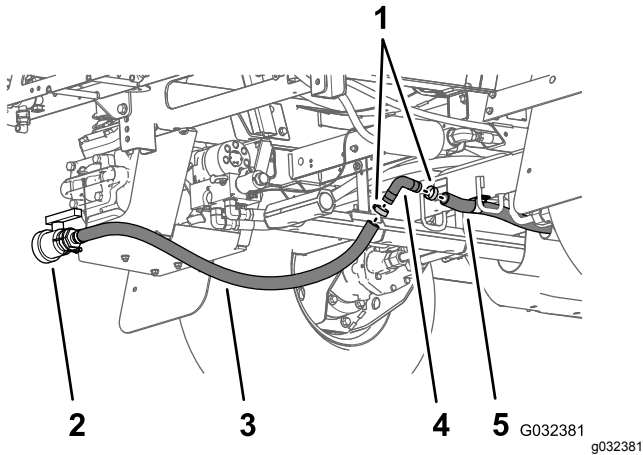
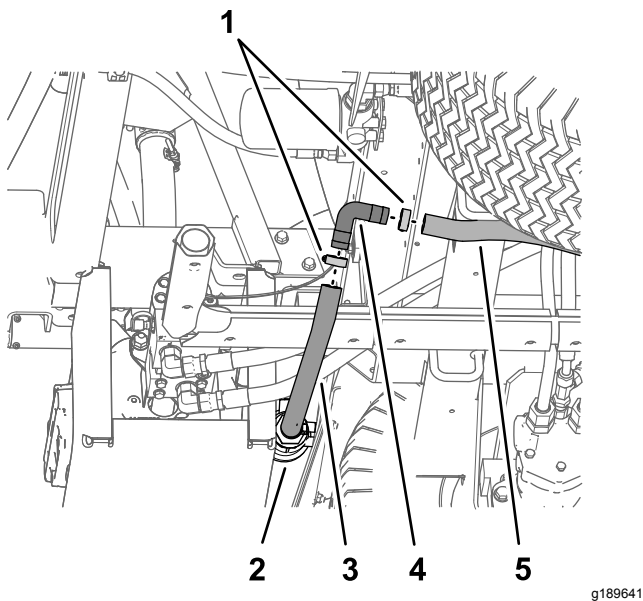

Figure 46
Figure 47
- Insert the 90° barbed fitting that you removed in step 3 into the drain-valve hose and the rear tank-drain hose (Figure 46 and Figure 47).
- Secure the 90° barbed fitting and drain hoses with the 2 hose clamps that you removed in step 2 (Figure 46 and Figure 47).